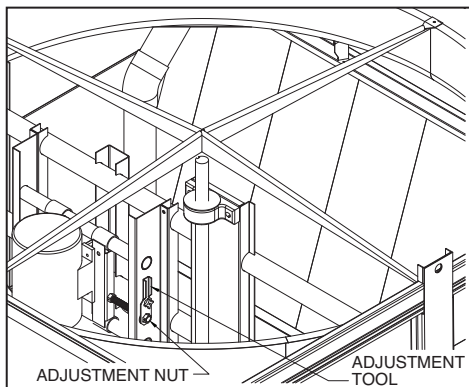

**Figure 3** – Externally Mounted Motor, Induced Draft
**Induced Draft** – On induced draft belt driven units provided with externally mounted motors, see Figure 3.